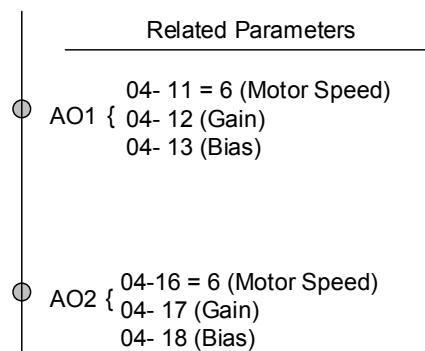

Figure 4.4.117 Analog output setting
4. See figure 4.4.117, observe the motor speed waveform and tune the gain at the same time.